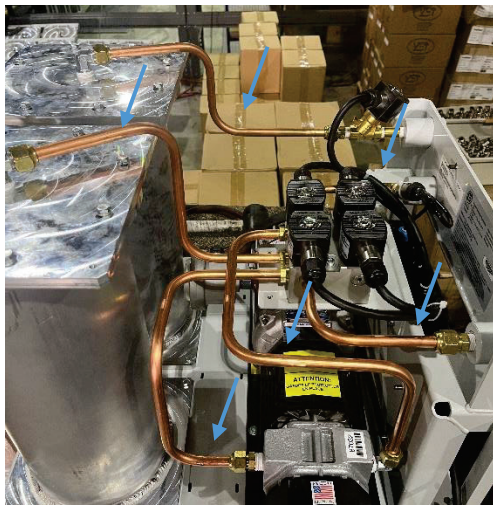

Figure 9-11: Piping to be removed
5. Remove 6 tubes from the GREEN MACHINE. **See Figures 9-11 & 9-12.**
4. Reinstall the 6 tubes. **See Figures 9-11.**